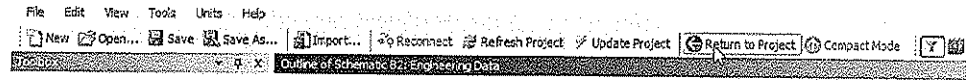

Figure 6-17 Choosing the Return to Project button from the Standard toolbar
- 1. Choose the **Return to Project** button from the **Standard** toolbar, as shown in Figure 6-17; the **Project Schematic** window is displayed with the **Geometry** component system and the **Static Structural** analysis system.
- 6. Select the **Steel** option from the drop-down list, refer to Figure 6-17; the new material is assigned to the model.